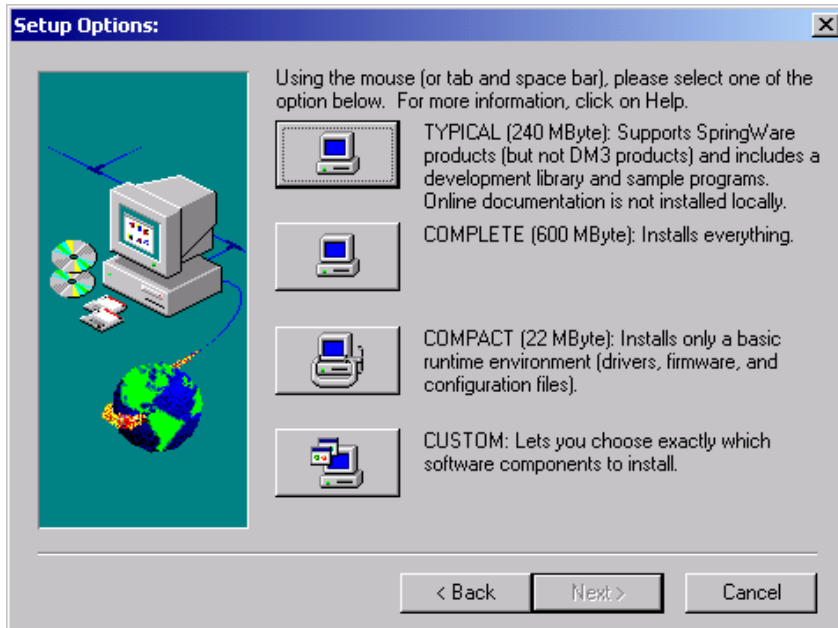

Figure 2. Setup Options
(Figure 2) gives several setup options: **Typical**, **Complete**, **Compact**, and **Custom**.
4. Select **Typical**, **Complete**, **Compact**, or **Custom** on the **Setup Options** dialog box (Figure 2). For more information on each option, refer to the following: